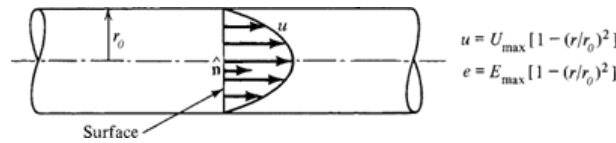

Figure P2.4
- 2.4 Evaluate the integral $\int \rho e (\mathbf{V} \cdot \hat{n}) dA$ over the surface shown in Figure P2.4 for the velocity and energy distributions indicated. Assume that the density is constant.